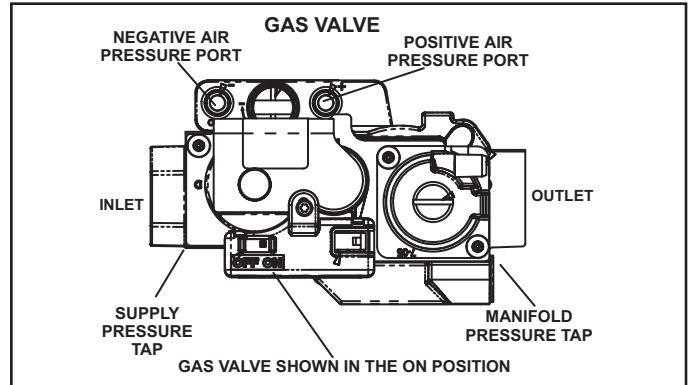

FIGURE 44
#### Gas Valve Operation (FIGURE 44)
- 6 - Move gas valve switch to **OFF**. See FIGURE 44.
- 8 - Move gas valve switch to **ON**. See FIGURE 44.
- 2 - Remove the threaded plug from the outlet side of the gas valve and install a field-provided barbed fitting. Connect measuring device positive "+" to barbed fitting to measure manifold pressure. See FIGURE 44 for manifold location.